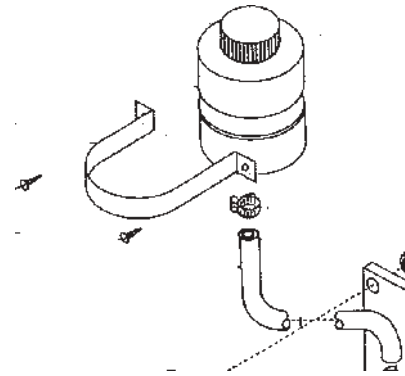

Fig.14
4. Attach the oil hose to its base on the bracket and mount the oil container (fig.14) close to the bow thruster but above the water line. The hose should be mounted in such a way that no air traps are formed thereby hampering the oil flow to the gear house. Fill the oil container and open the oil plug in the gear house and wait until oil leaks out. Put the oil plug back in place. This is to speed up the oil flow to the gear house and also to squeeze out any air that is left in the hose.
Connect the Pos.(+) and Neg.(-) cables, from the battery, on resp. terminals marked with + and - symbols on the el.motor. See fig. 14.